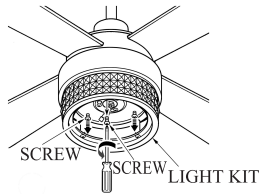

FIG.15
4. Remove two of three screws and loosen the last screw from light kit plate. (see Fig.15)